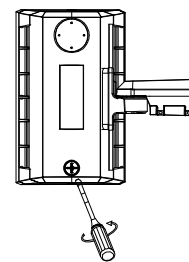

Figure 17
- STEP 1: Open the metal plug counter clockwise with a screwdriver, then slide the switch up and down to adjust the power controller or CCT controller in your demand (FIGURE 17)